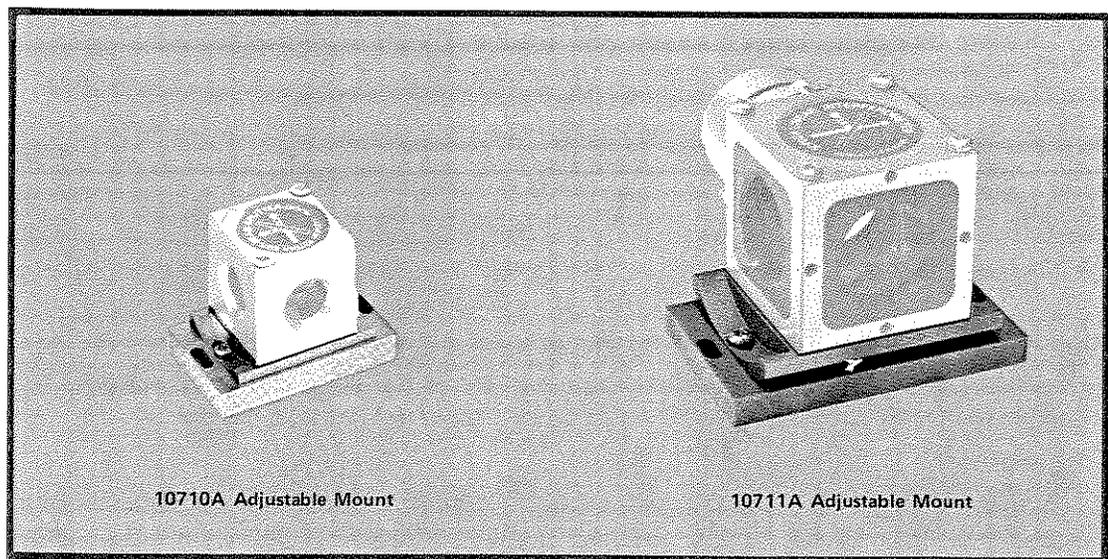

Figure 2-17. 10710A and 10711A Adjustable Mounts
2.17 10710A AND 10711A ADJUSTABLE MOUNTS (Figure 2-17). The 10710A and 10711A Adjustable Mounts provide a convenient means of mounting, aligning, and securely locking in position the optical accessories to the 5501A Laser Transducer System. Since both mounts allow approximately $\pm 8^\circ$ in the tilt adjustment and $\pm 4^\circ$ in the yaw adjustment, the need for custom fixturing is minimized on most installations. A unique feature of these mounts allows the component being adjusted to be rotated about its optical centerline providing simple, time-saving installations. The 10710A Adjustable Mount will accept the 10700A and 10701A Beam Splitters, the 10705A Single Beam Interferometer, and the 10707A Beam Bender. The 10711A Adjustable Mount will accept the 10702A Linear Interferometer and the 10706A Plane Mirror Interferometer. Mounting screws are provided to attach the optical components to the mount.